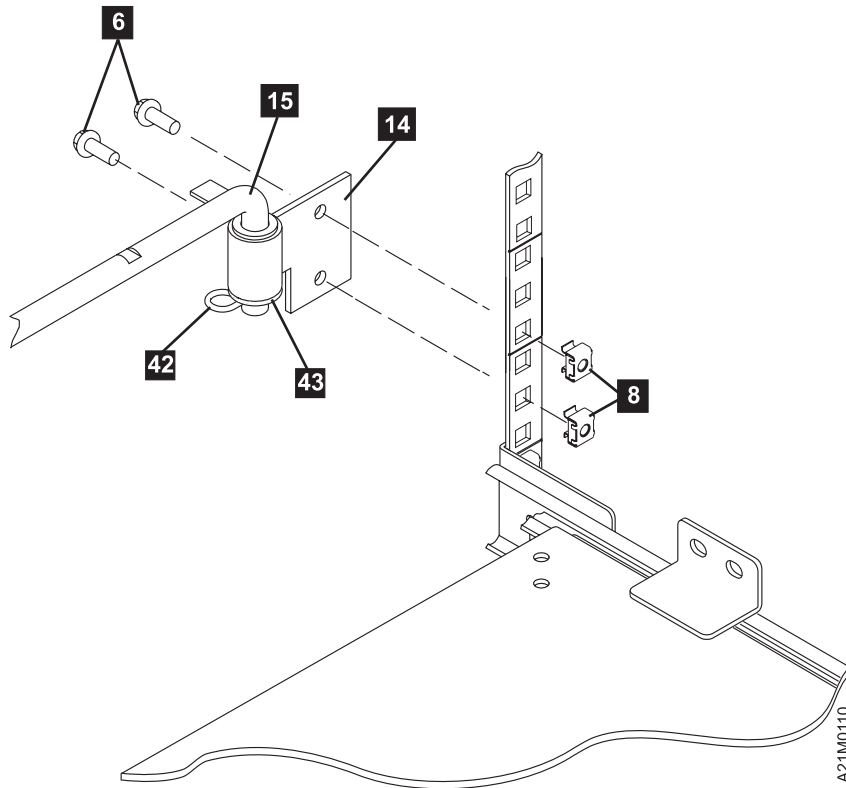

Figure 42. Attaching Cable Arm Hinge and Bracket
- \_\_\_ Step d. See Figure 42 on page 80 to install two M6 caged nuts **8** for the articulated arm hinge. Viewed from the front of the rack, install the caged nuts on the right rear EIA strip. Ensure there is one open hole above the top slide caged nut.
- \_\_\_ Step 10. See Figure 42 on page 80 to install the pivot hinge **14**. Use two socket button head screws **6** through the pivot hinge and into the two caged nuts **8**. Tighten the screws. The pivot hinge should be installed in the EIA unit just above the right rear slide mounting position.